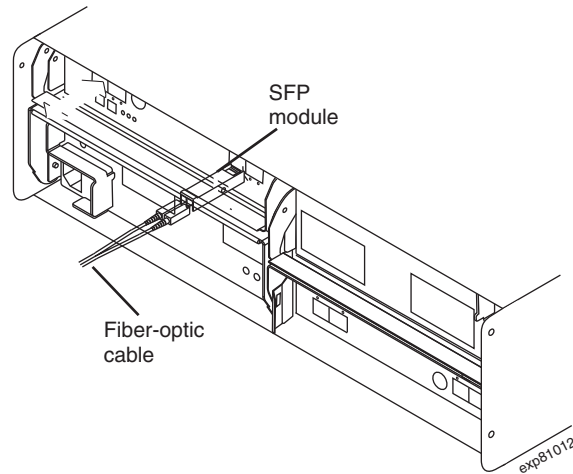

Figure 26. Installing an SFP module and connecting an LC-LC cable to the EXP5000
3. Install an SFP module in the SFP port on the back of the EXP5000; then, connect the other end of the LC-LC cable into the SFP module, as shown in Figure 26 on page 41.